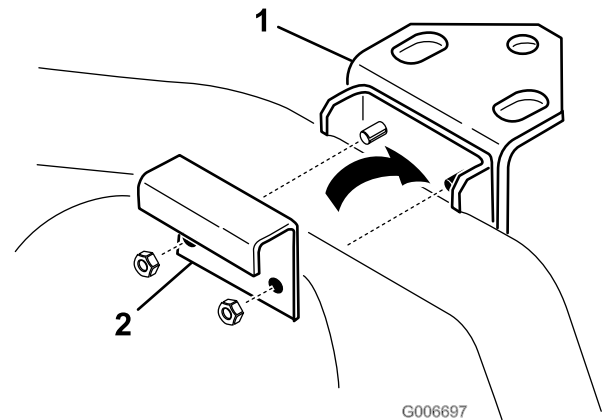

Figure 12
1. Remove locknuts securing hitch plate to rear axle (Figure 12). Loosely mount rear harness switch bracket to rear axle with locknuts removed.